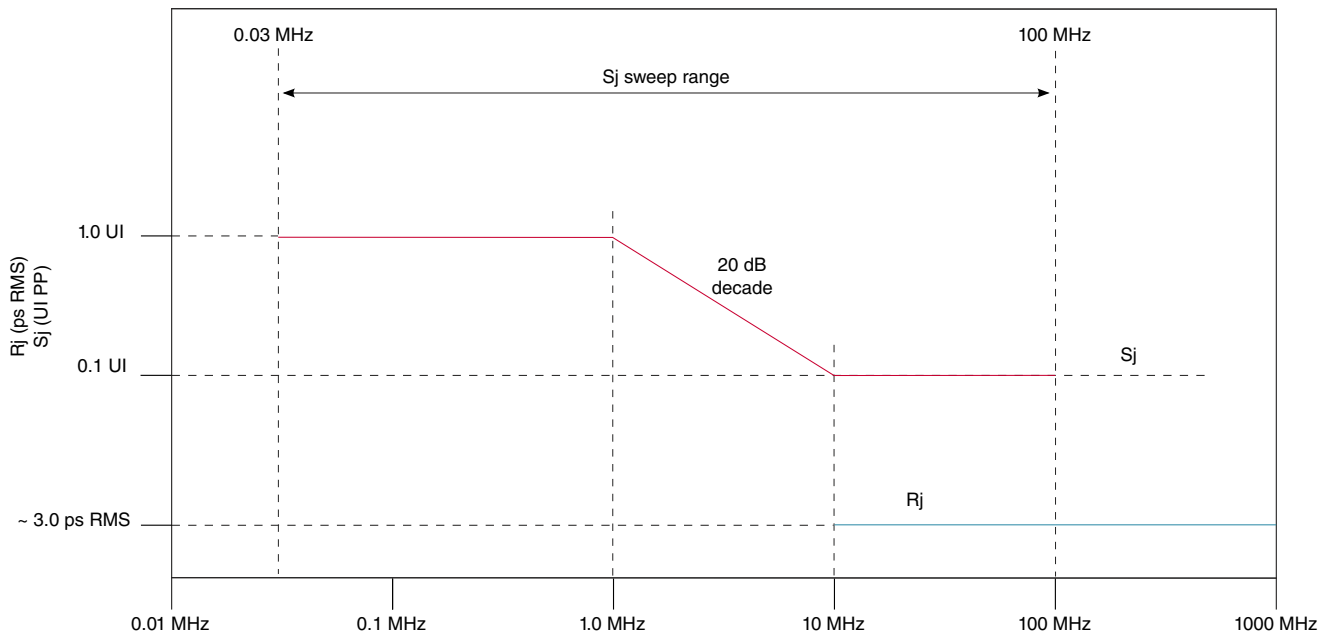

Figure 85. Swept sinusoidal jitter mask
3. The sinusoidal jitter in the total jitter tolerance may have any amplitude and frequency as shown in Figure 85.
4. Random jitter (Rj) is applied over the following range: The low frequency limit may be between 1.5 and 10 MHz, and the upper limit is 1.0 GHz. See Figure 85 for details. Rj may be adjusted to meet the 0.3 UI value for T_{RX-SV-8G}.